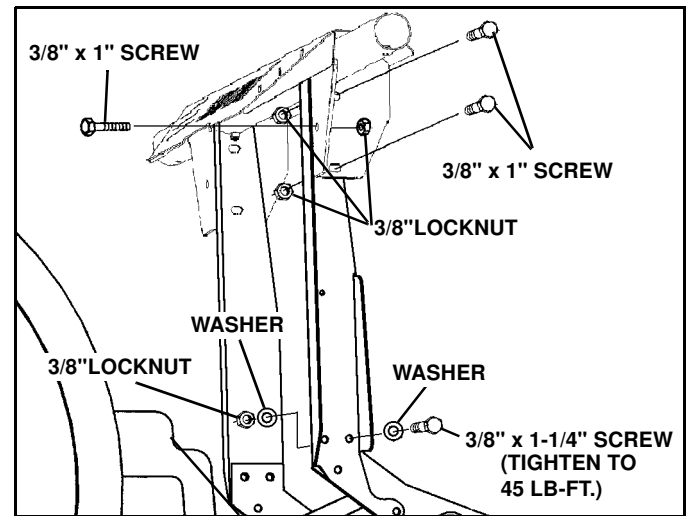

Figure 1-14
1. Remove left and right light support from power pack carton. Attach each light bar support to lift/light bar with (4) 3/8" x 1-1/4" screws, (8) washers and (4) lock nuts from the light bar parts bag part number 96114483. Do not tighten at this time. (See Figure 1-14)
2. Secure light bar to supports with (6) 3/8" x 1" screws and lock nuts. Align light bar supports to vertical position and tighten all light bar hardware. Tighten eight lower screws to 45 lb-ft. (See Figure 1-14)